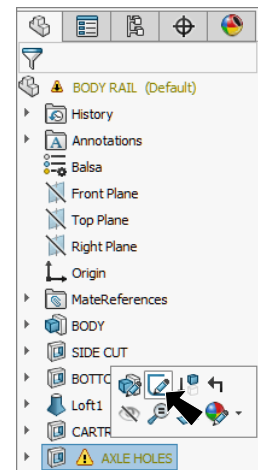

Fig. 62
Step 4. Click **AXLE HOLES** and click **Edit Sketch**  on the context toolbar, **Fig. 62**.